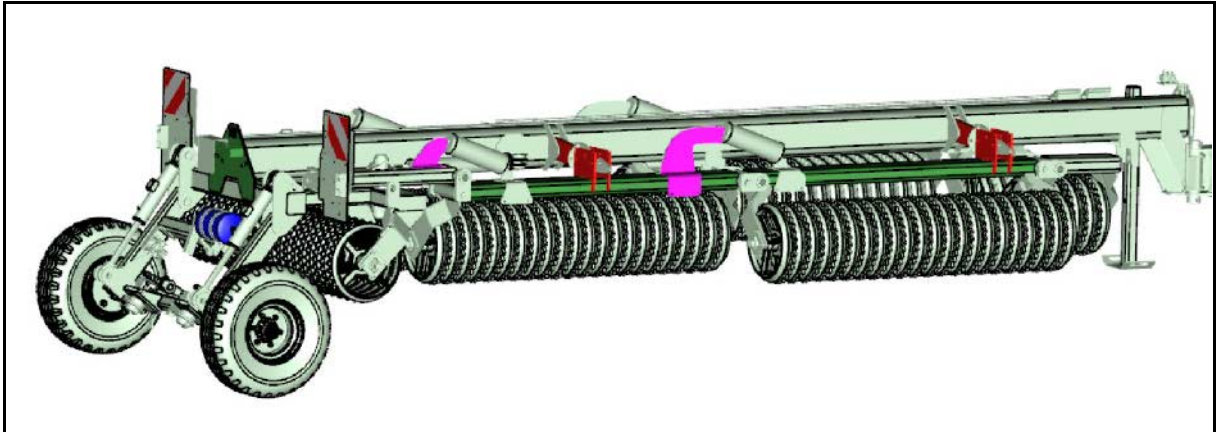

Fig. 28
- The transport locking mechanism (Fig. 28/1) is unlocked.